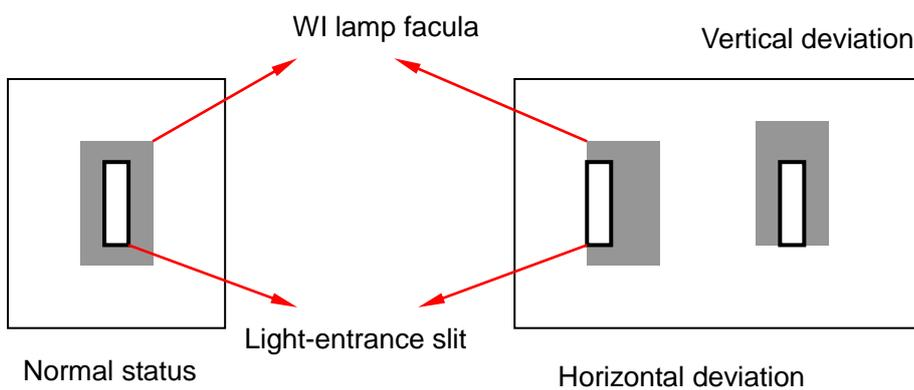

Figure 4-17 Relative position of WI lamp facula and light-entrance slit
- (1) When lamp is ON, WI lamp and D2 lamp have high voltage. So touching lamp and its lead is forbidden to avoid electric shock.
- (2) When lamp is ON, WI lamp and D2 lamp have high temperature. So touching surface of the lamp is forbidden to avoid scald.
- (3) When D2 lamp is ON, it will emit strong ultraviolet radiation. So avoid seeing the lamp directly.
A) The adjustment of WI lamp position are as follows: (Refer to Figure 4-16~ Figure 4-17)
(1) Turn off D2 lamp.
(2) Set wavelength below 300nm, and set 2nm slit.